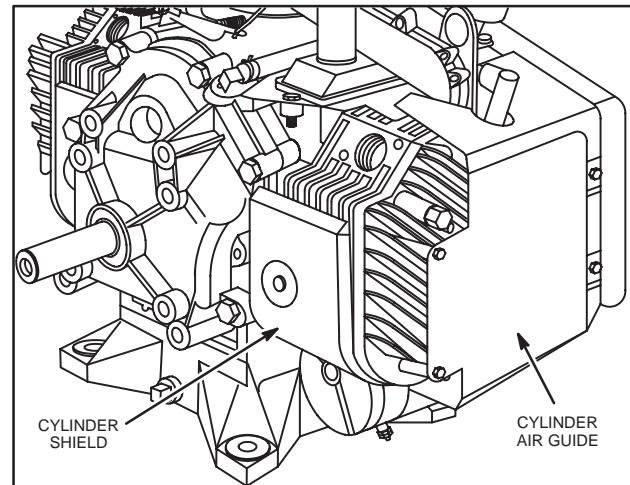

Fig. 19 – Install Cylinder Shield and Air Guides
3. Tighten all screws securely. Repeat for other cylinder, Fig. 19.